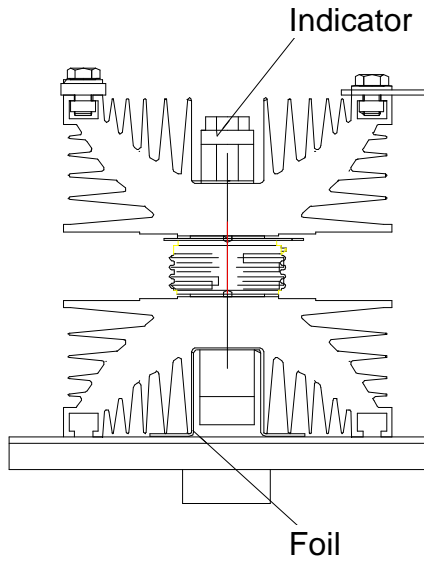

Fig. 3
- ◆ Fix the mounting clamp, heat sink and the semiconductor acc. to fig 3.